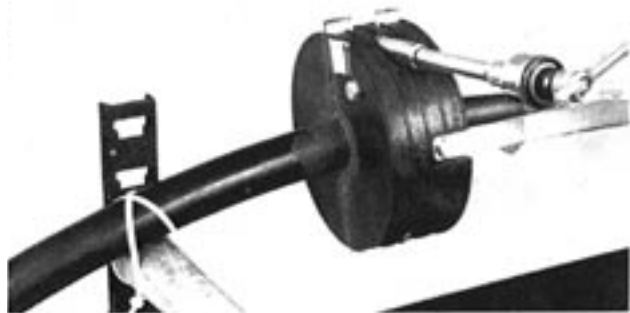

Figure 24 — Drawing End Plate Halves Together
9.07 Using a ratchet wrench draw the End Plate halves completely together until the excess LOCK-TAPE™ Sealant separates and lays back as illustrated in Figure 24.